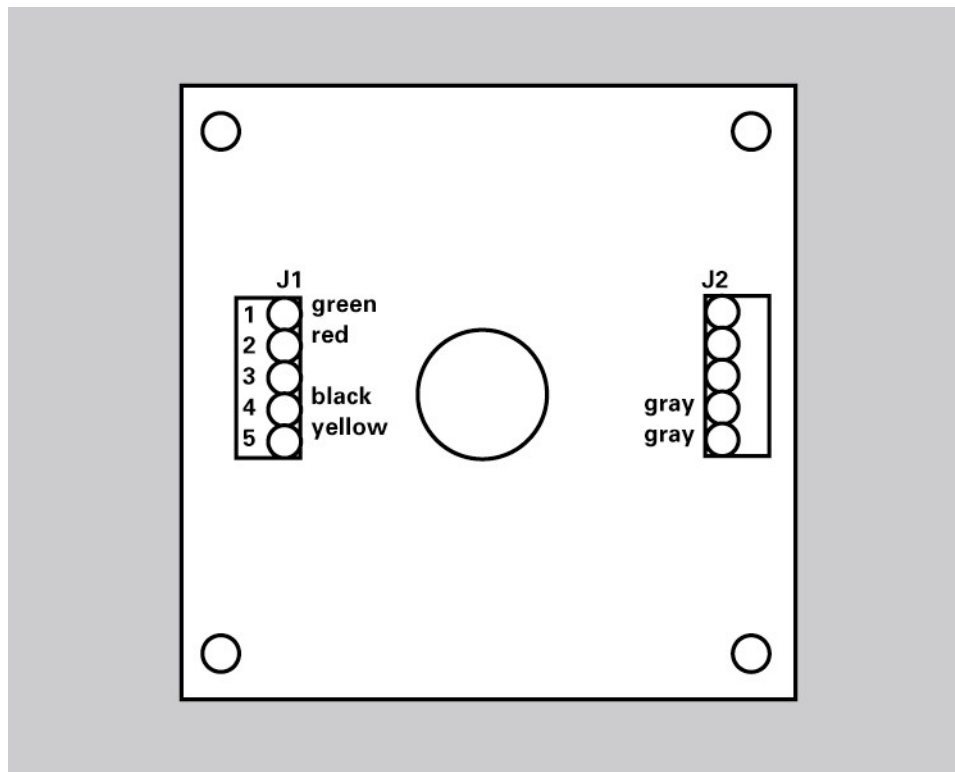

Figure 43
3. Connect the cable conductors on the opposite end of the cable to terminal block J1 on the PCB in the switch enclosure as shown in *Figure 43*.
10. Connect the cable conductors to terminal block J1 on the PCB of switch enclosure #2 as shown in *Figure 43* (the same as the single switch configuration).